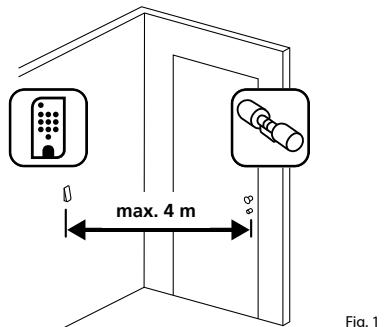

Fig. 1
① Place the keypad in the desired installation location (Fig. 1).